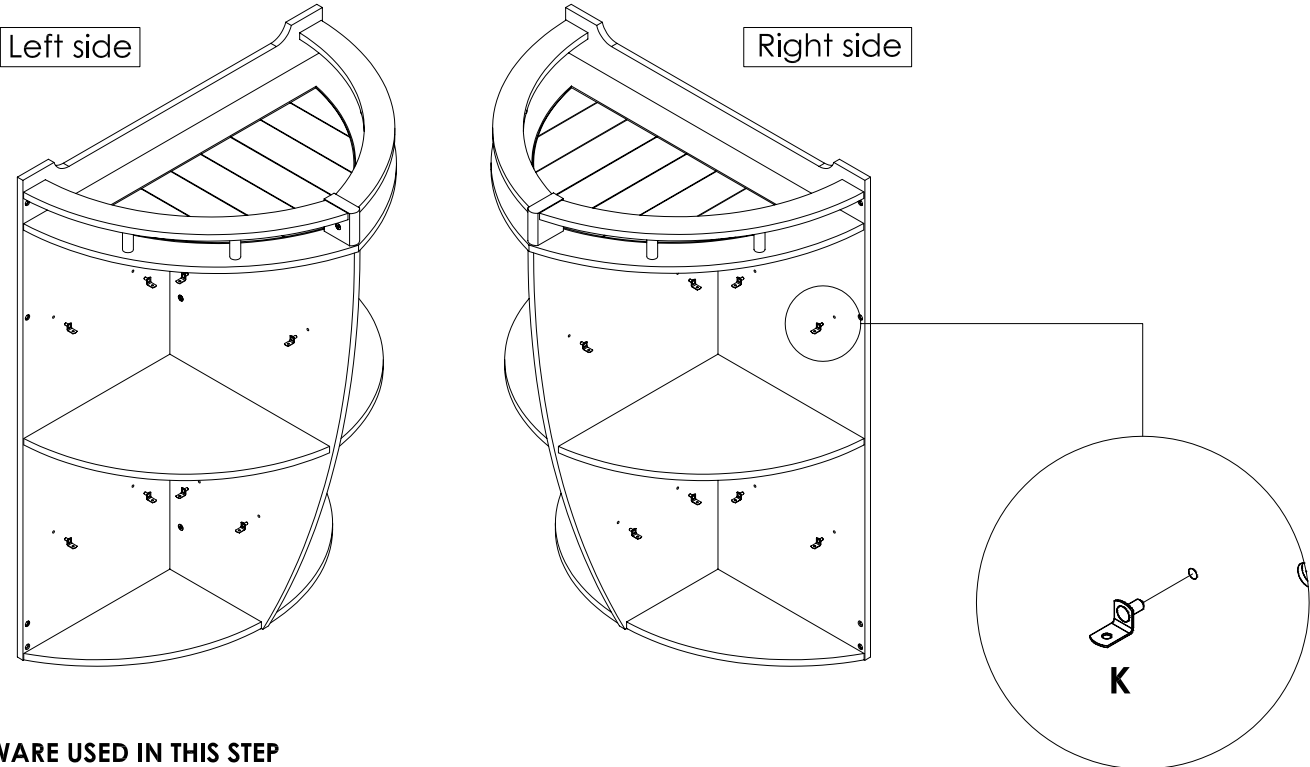

Figure 11
1. Attach **Shelf Supports (K)** into specified Ø6MM holes on **Center Panel** and **Footboard Panel** as shown in **Figure 11**.